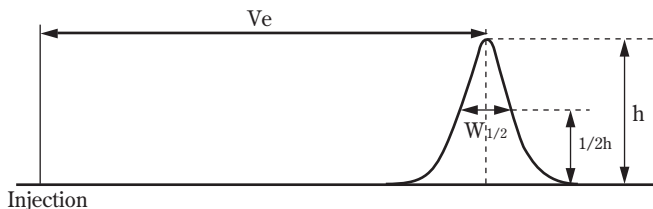

Fig. 3 Method of Calculating the Number of Theoretical Plates
The number of theoretical plates of a column (N) is calculated by the half peak width method shown in Fig.3 and the following equation.